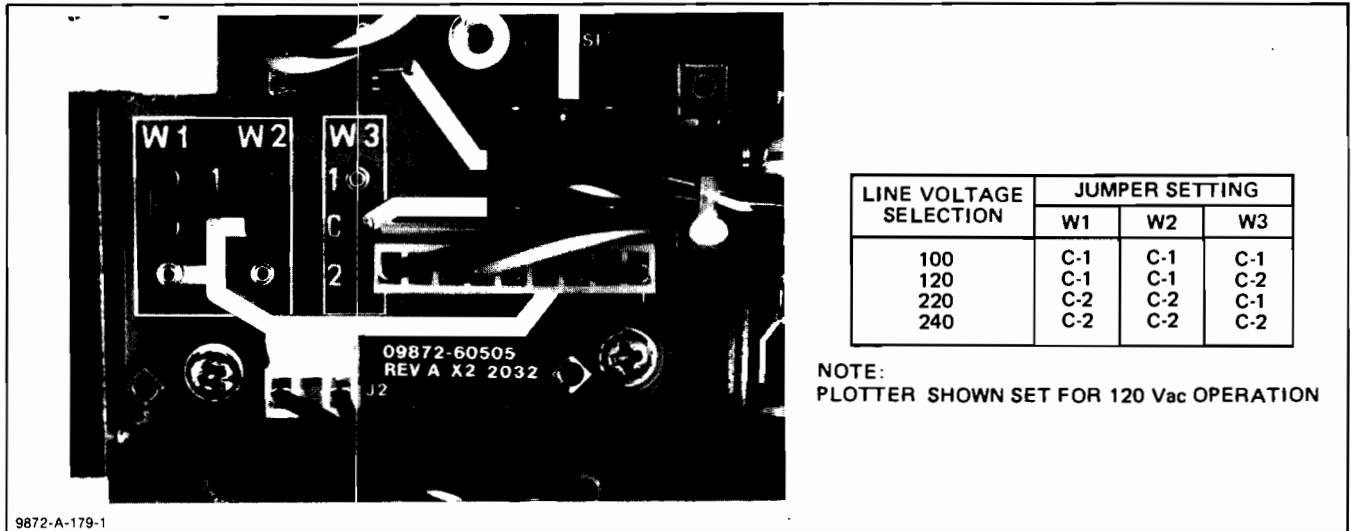

Figure 1-4. Line Voltage Selection Jumpers
- d. Position the jumpers for the desired voltage according to the legend on the primary shield. Also see Figure 1-4.